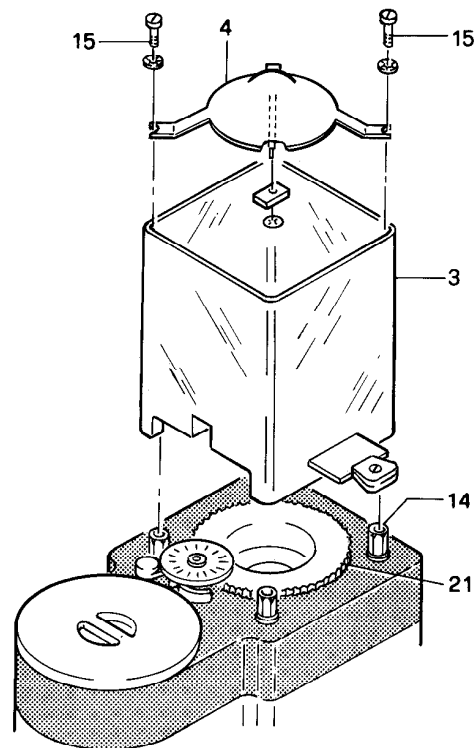

Fig.5
- Position the hopper container 3 Fig. 5 on the four